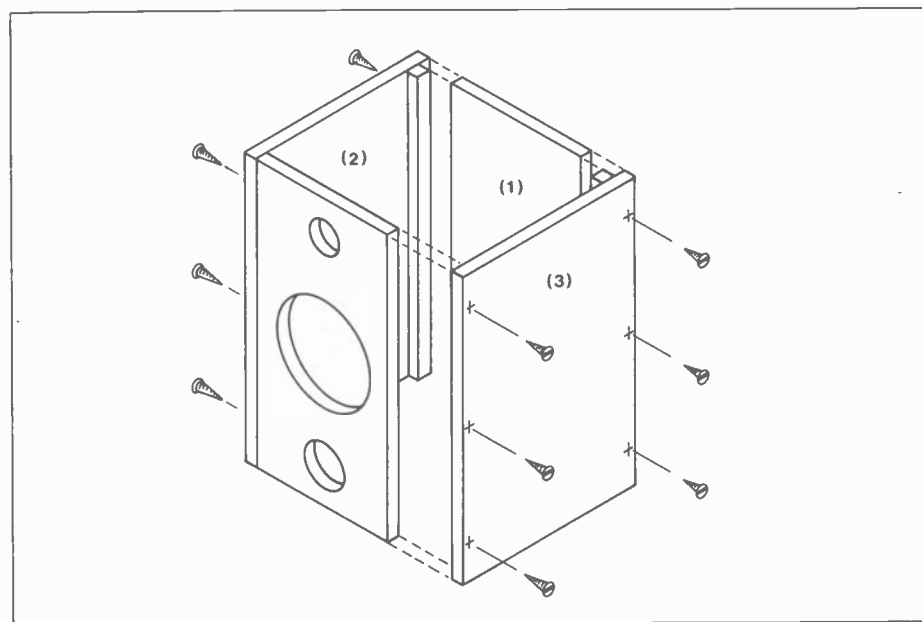

Figure 5. Panel assembly.
If reference is made to Figure 5 panel assembly drawing, it can be seen that panels (2) and (3) require three clearance holes drilled along each of the long edges, for the chipboard screws. Make the holes approximately 7mm in from the edges and counterdrill them to take the screw heads. Note that the larger (68mm) of the two small holes cut out of the front baffle is positioned downward towards the base! Top and base panels (5) and (6) also require 4 clearance holes to be drilled, one positioned centrally along each side and 7mm in from the edge, and these too should be counter drilled as before.